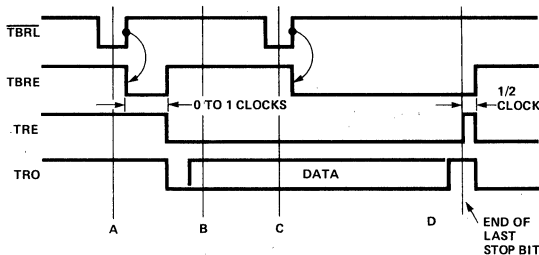

FIGURE 7. Transmitter Timing (Not to Scale)
Transmitter timing is shown in Figure 7. (A) Data is loaded into the transmitter buffer register from the inputs TBR1 through TBR8 by a logic low on the TBRLoad input. Valid data must be present at least t_{DS} prior to and t_{DH} following the rising edge of TBRL. If words less than 8 bits are used, only the least significant bits are used. The character is right justified into the least significant bit, TBR1. (B) The rising edge of TBRL clears TBEmpty. 0 to 1 clock cycles later, data is transferred to the transmitter register, TREEmpty is cleared and transmission starts. TBEmpty is reset to a logic high. Output data is clocked by TRClock, which is 16 times the data rate. (C) A second pulse on TBRLoad loads data into the transmitter buffer register. Data transfer to the transmitter register is delayed until transmission of the current character is complete. (D) Data is automatically transferred to the transmitter register and transmission of that character begins.